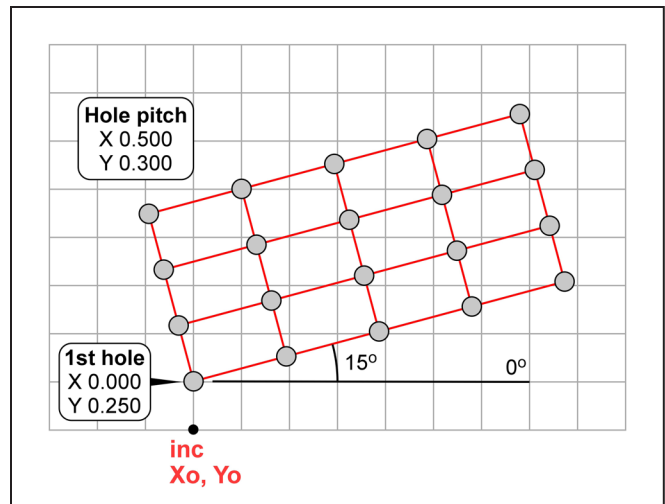
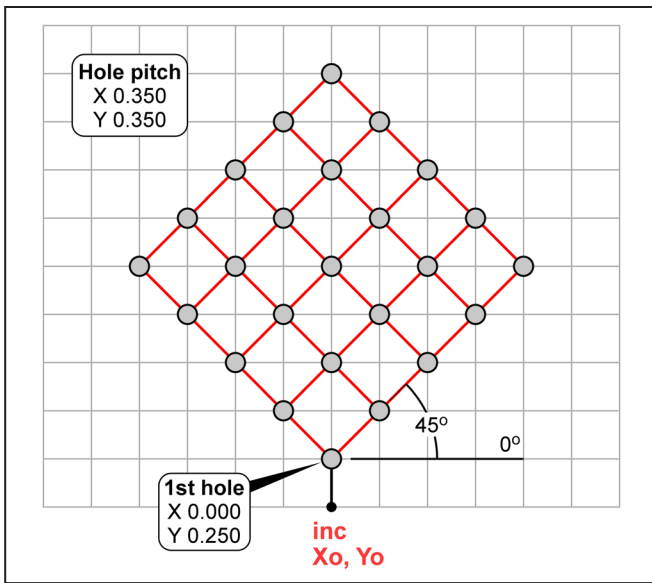

Figure 18 Example (1) of Grid drilling
Figure 20 Example (2) of Grid drilling
(1) A rectangular grid with different X and Y pitches, rotated by 15°, Figure 18; (2) A square (symmetrical) grid rotated by 45°, Figure 20.
Example (2) Figure 20